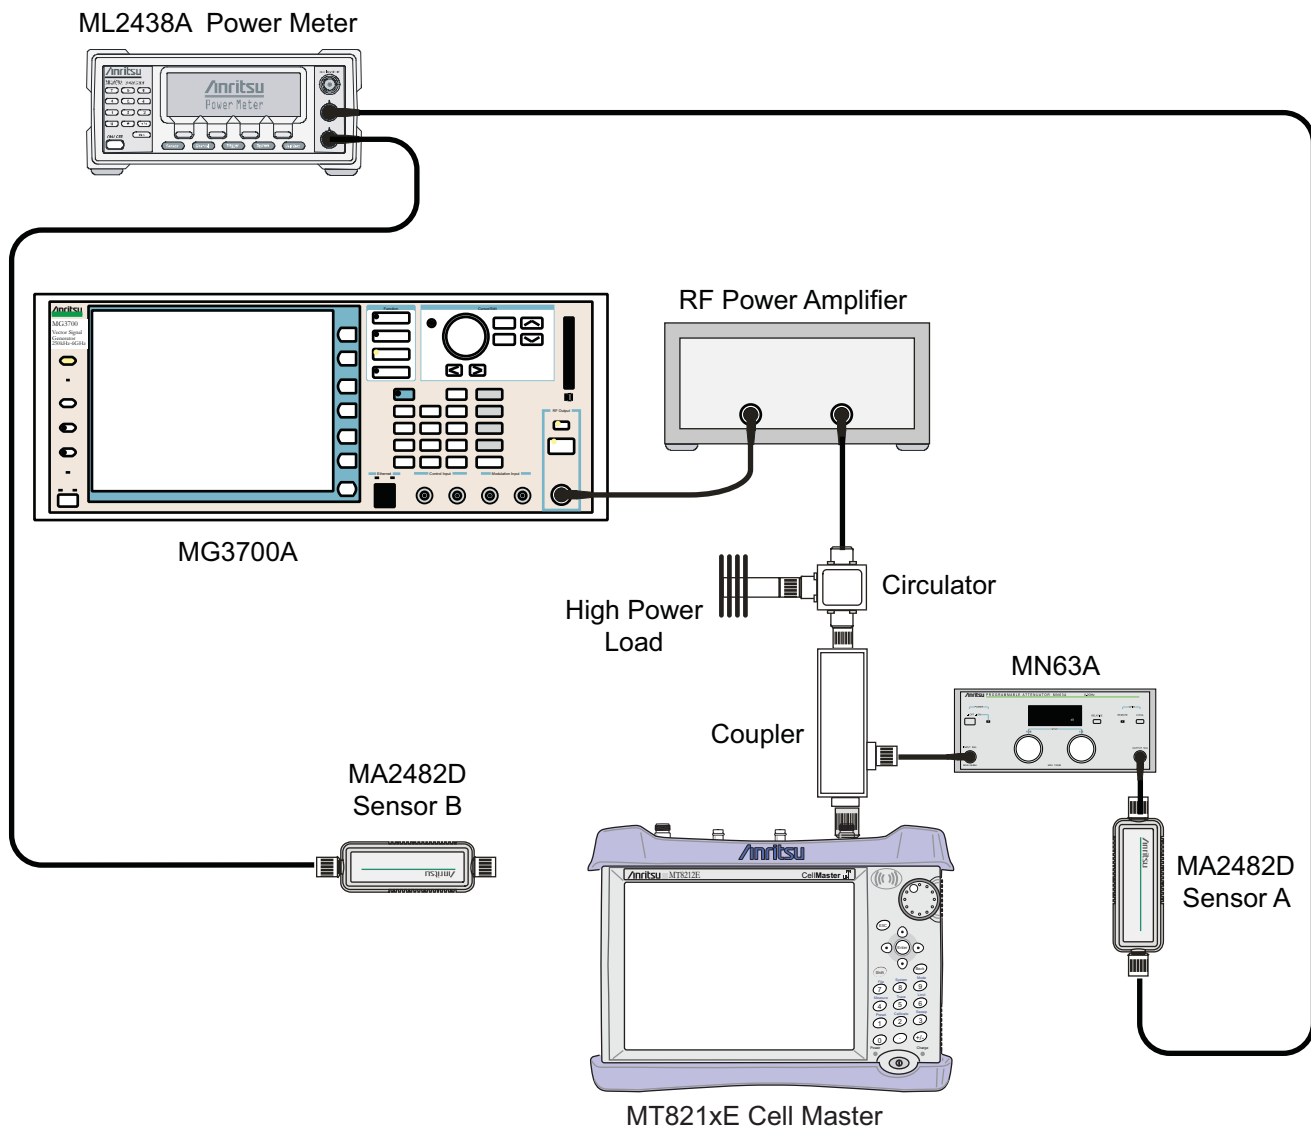

Figure 5-9. WCDMA Signal Analyzer Option Verification (Setup 2)
33. Disconnect the coupler from Sensor B and connect the coupler to the MT821xE SPA RF In connector. Refer to Figure 5-9